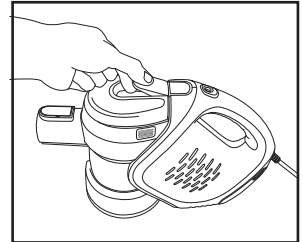

Fig. 1
3. Lift up the top cover release button and remove the top cover (Fig. 1).